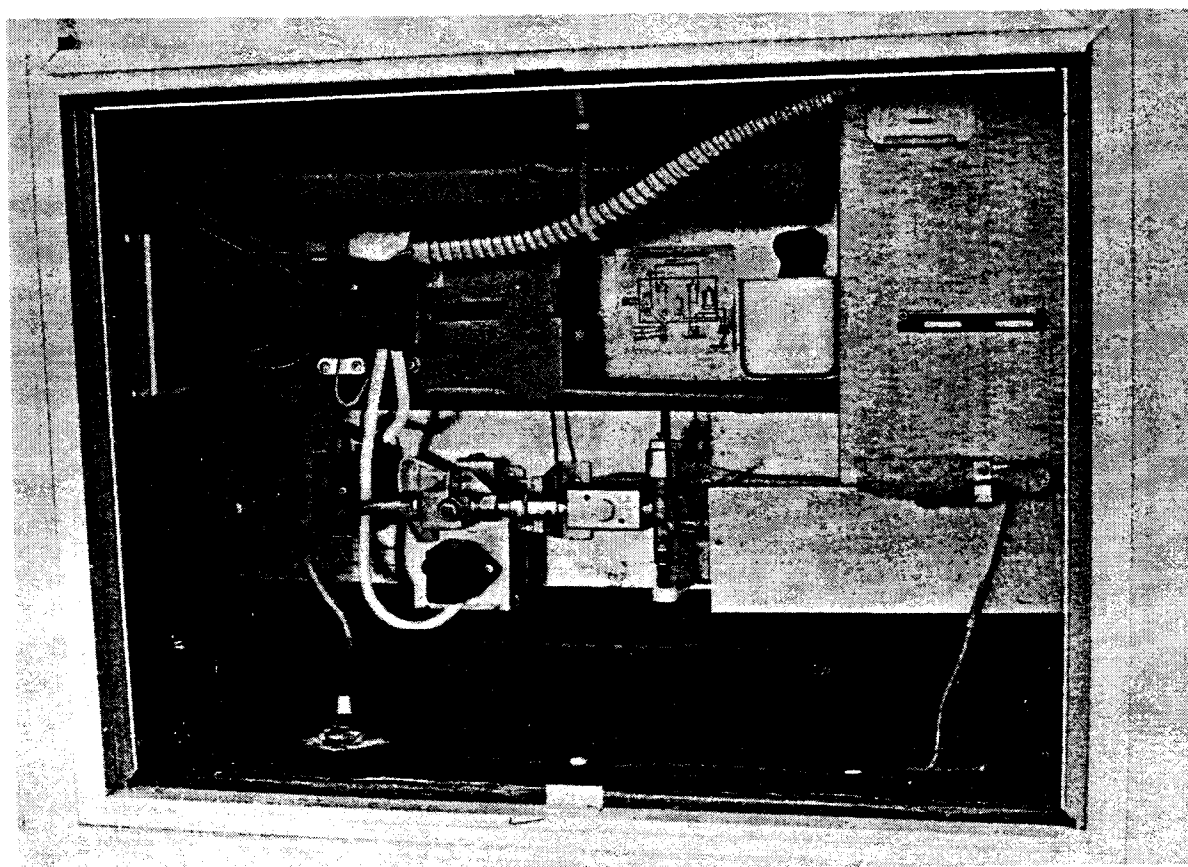

Figure 7-4. Exterior Access to Refrigerator
2. Annually clean flue and baffle and exterior compartment. (See Figure 7-4).